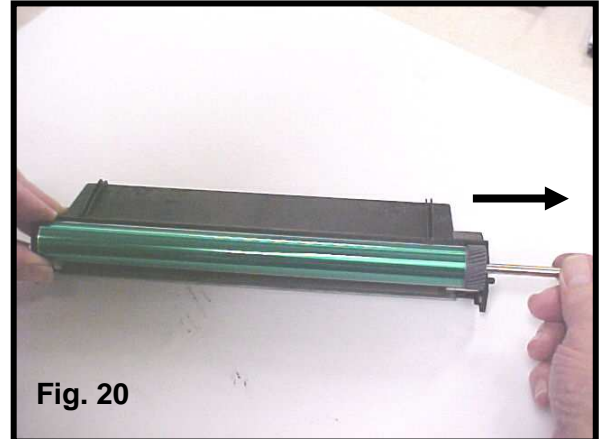

Fig. 20
20. Pull the drum axle out towards the direction of the OPC drum drive gear (grey colored gear) (Fig. 20).